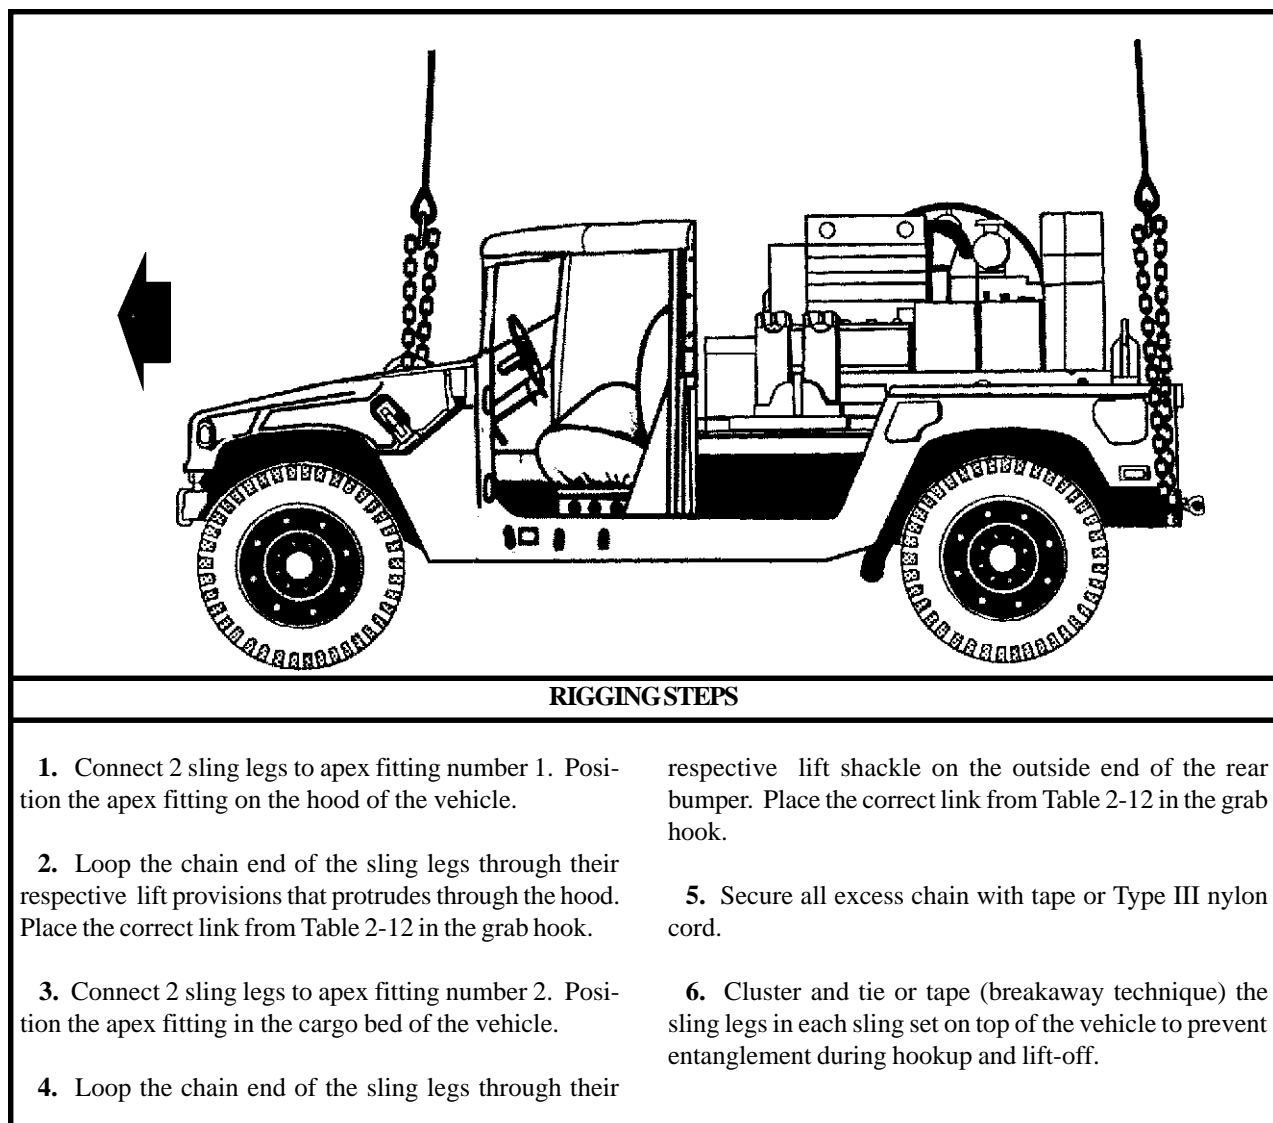

Figure 2-11. M1037 (HMMWV) With AN/TPQ-36 Firefinder Generator Pallet
(2) **Rigging.** Rig the load according to the steps in Figure 2-11.
(4) **Derigging.** Derigging is the reverse of the preparation and rigging procedures in steps d (1) and d (2).